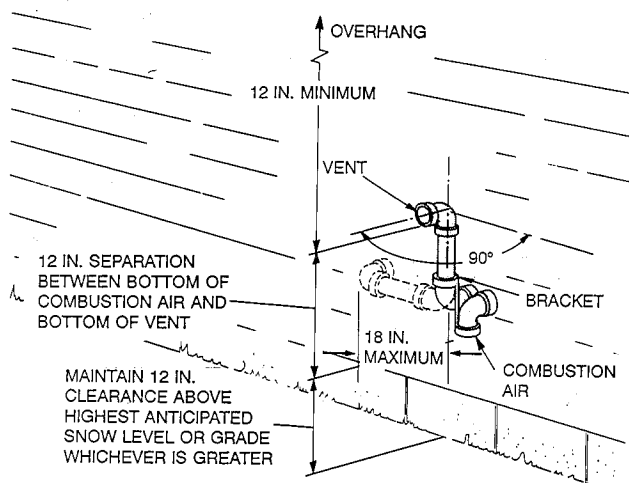

Fig. 13—Sidewall Termination (12 in. or more above snow level or grade)
2. Sidewall termination when combustion-air and vent pipes exit through sidewall 12 in. or more above highest anticipated snow level and grade. (See Fig. 13.)
- a. Install elbows as shown in Fig. 13 using same procedures for cementing as used for system piping.
- b. Install bracket as shown in Fig. 13.
- c. Position vent pipe and elbow to maintain vertical 12-in. separation between vent pipe outlet and combustion-air inlet. Cement vent pipe in elbow as shown in Fig. 13.
- d. For applications using vent pipe option indicated by dashed lines in Fig. 13, rotate vent elbow 90° from position shown in Fig. 13.